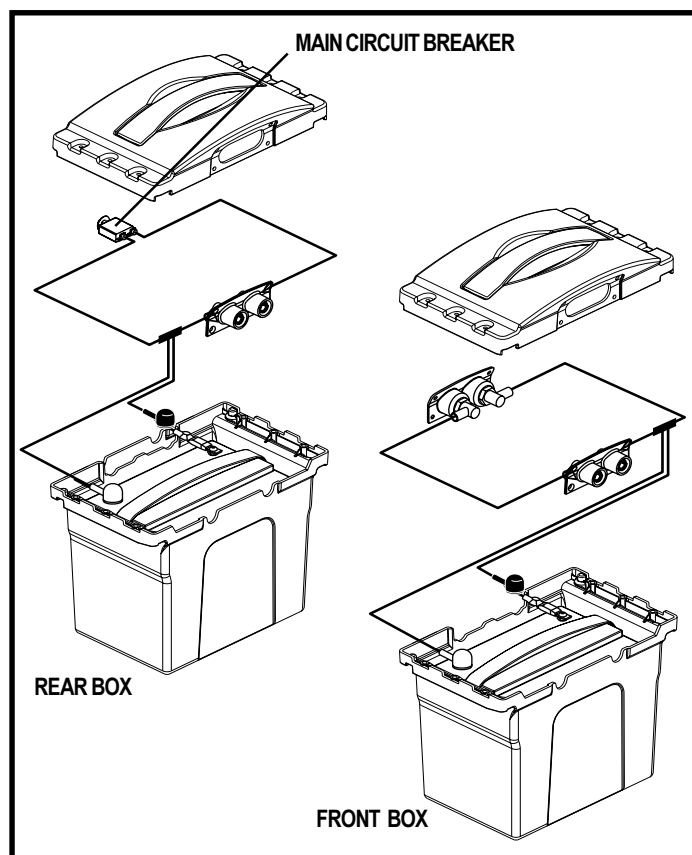

Figure 37. Battery Boxes
6. Place new batteries in the battery boxes. See figure 37.